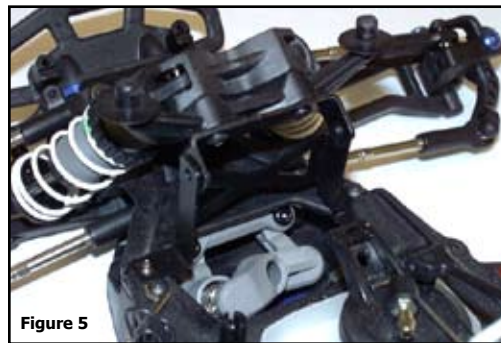

Figure 5
**4.** Replace the front shock tower, making sure that the tabs of *Cage Mount 1* go inside the tabs of *Cage Mount 2*, as shown in *Figure 5*.